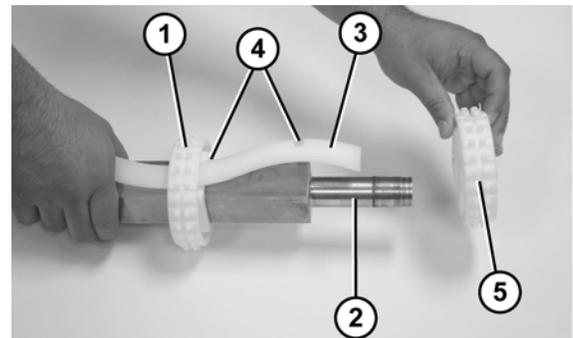

Figure 73
- Slide the first sprocket (Figure 73, item 1) onto the drive spindle (Figure 73, item 2).
- Insert the sprocket alignment bar (Figure 73, item 3) into the first sprocket and align the sprocket with the notch (Figure 73, item 4) in the sprocket alignment bar.
- Slide the remaining sprockets (Figure 73, item 5) onto drive spindle and align each sprocket with the notches (Figure 73, item 4) in the sprocket alignment bar. Be sure that at least three sprockets (Figure 74, item 1) are positioned such that they are on alternate opposing locations on the alignment bar.